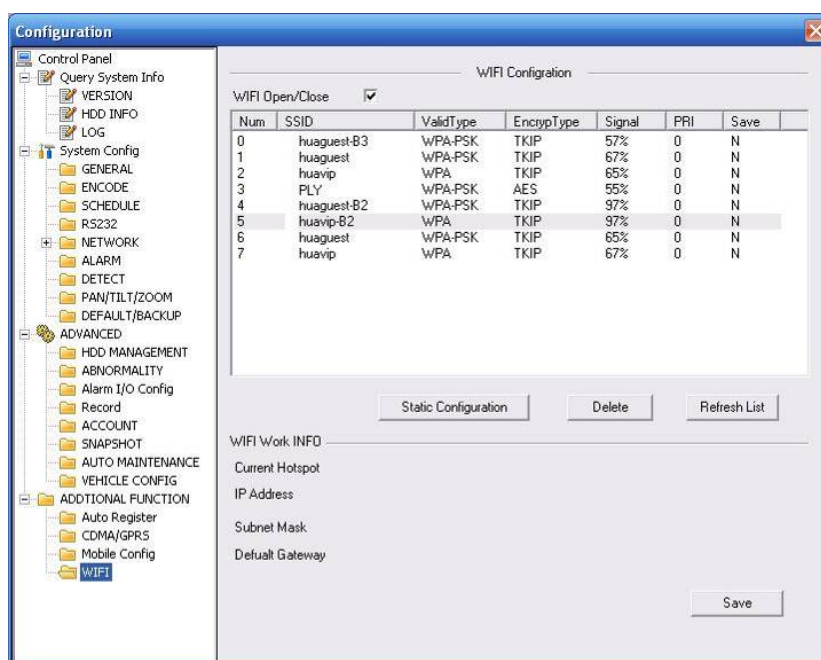

Figure 7-59
Step 3. In Figure 7-59, click the static configuration button.